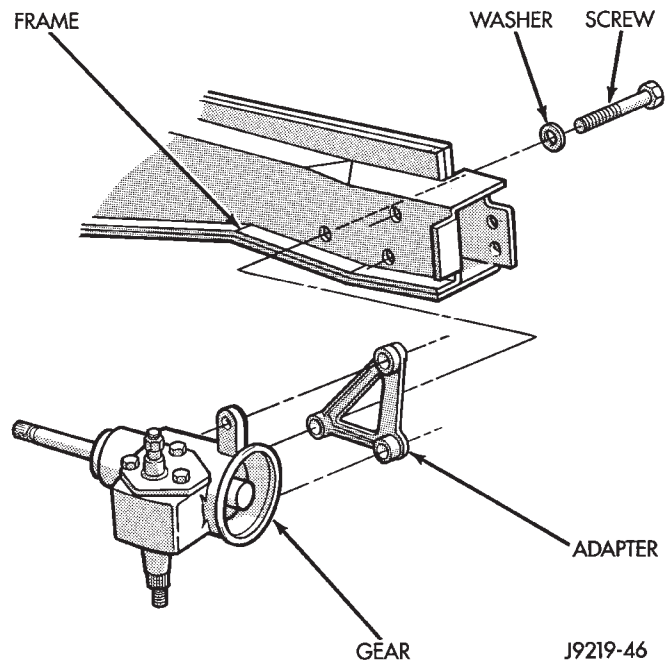

Fig. 6 Steering Gear Mounting—XJ
(5) Remove the steering gear retaining bolts and nuts. Remove the steering gear from the vehicle (Fig. 6, 7).